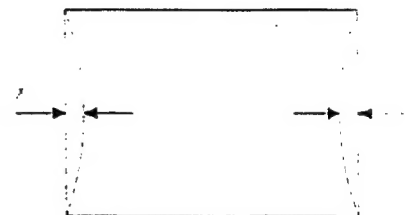

Figure 8
3. Press and rotate the Encoder to let $X \leq 2.0$ mm (See Fig 8).